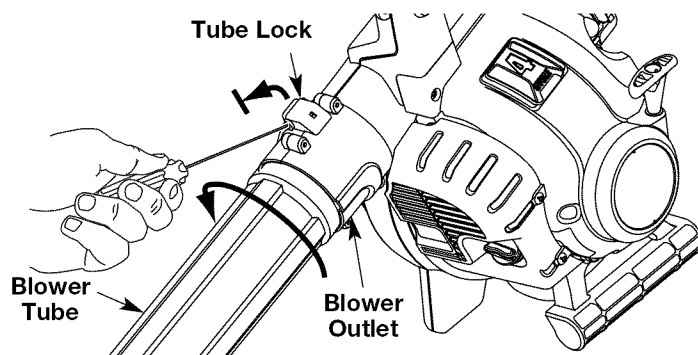

Fig. 5
2. Insert a flathead screwdriver into the Tube Lock. Twist the screwdriver counterclockwise 1/4 turn and hold it there (Fig. 5).
3. While holding the screwdriver in a counterclockwise position, grasp the blower tube and twist it counterclockwise (Fig. 5).